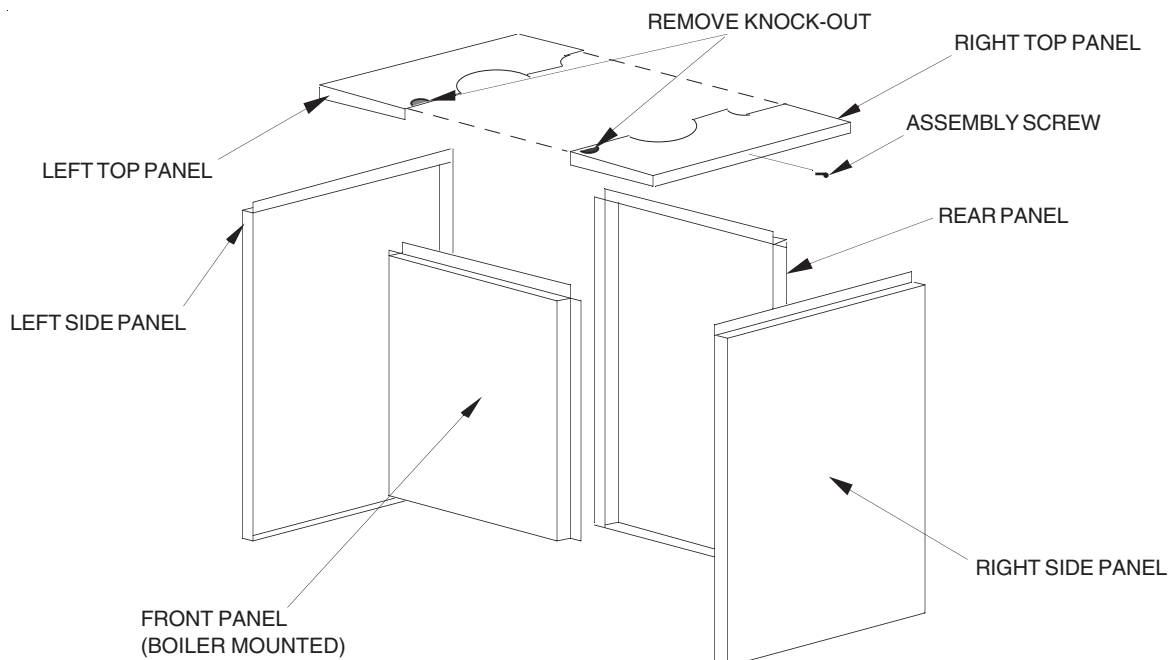

FIGURE 1.3
1. Unpack jacket parts from carton and check that quantity is correct: two side panels, one rear panel, one left top panel and one right top panel (see Figure 1.3).